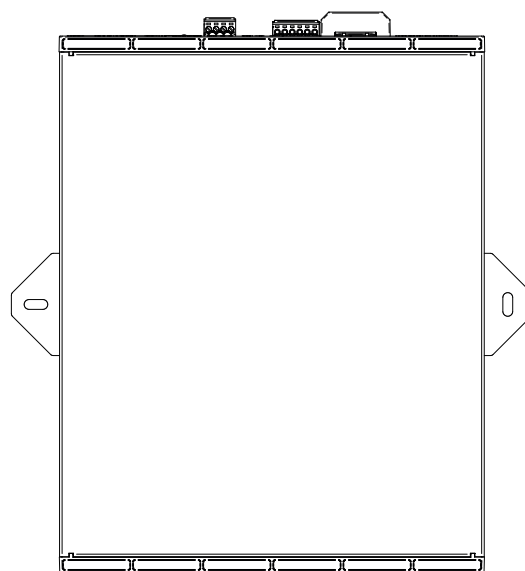

Figure 2 - Wall-mount brackets slots
7. Secure the amplifier to the wall by tightening the screws through the bracket slots, indicated by the arrows in Figure 2. Verify that the unit is firmly fixed and that no play is present.